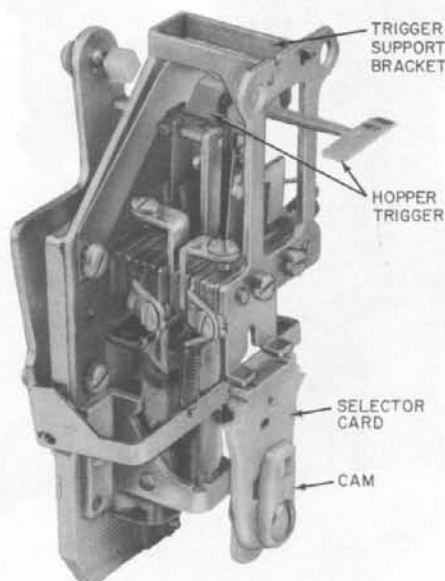

Fig. 23 — Coin Relay
- (3) Remove two hex head screws on sides of coin relay.
- (4) Check that hopper trigger (Fig. 23) is in horizontal (up) position and pull off coin relay. **Do not damage hopper trigger.**
Note: Do not attempt to install relay if trigger support bracket (Fig. 23) is so distorted that mounting holes do not engage hopper bosses.